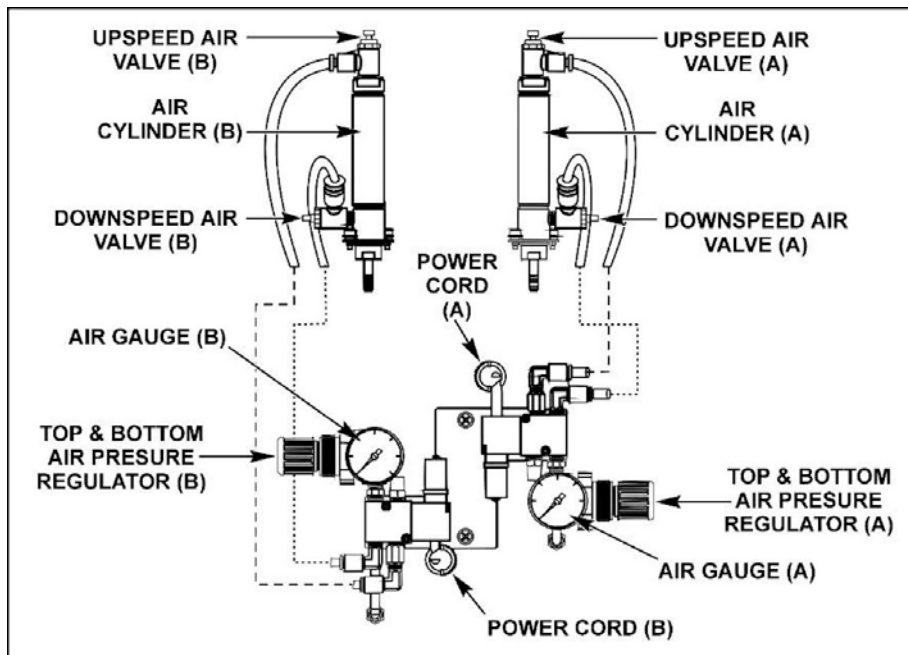

Figure 4-1. Typical Solenoid Air Valve System with Dual Regulators
- 4 Set the force indicator on all AMADA WELD TECH weld heads to 3. For more detailed information on setting up each specific weld head, refer to their respective manuals. See figures 4-1 and 4-2 for illustrations of typical air actuated systems.